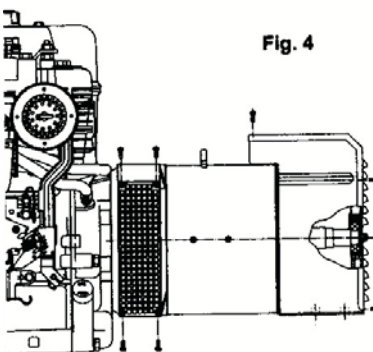

Fig. 4
-) lock the central bolt by applying a tightening torque of $21 \pm 7\%$ Nm to the M8 nuts reassemble the lateral protective nets and the rear closing grid by applying a tightening torque of $3,5 \pm 7\%$ Nm to the M5 screws (figure 4).